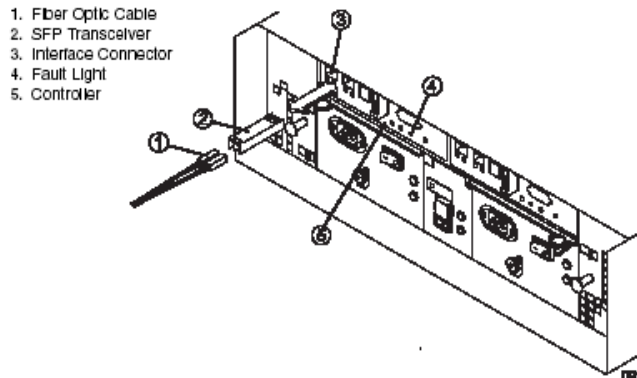

FIGURE 7-15 Removing the SFP Transceiver and fibre Optic Cable
7. Check the Fault lights to locate the failed controller battery. If a fault is detected, the amber Fault light will be illuminated. Figure 7-15 on page 7-31 shows the locations of these lights.
8. Disconnect the SFP transceivers and all attached interface cables from the failed controller. Label all cables such that you can reconnect them correctly to the new controller. Figure 7-15 illustrates disconnecting a cable.
13. Reinstall the SFP transceivers to their original connectors, and attach the host and drive interface cables to their respective SFP transceivers. Figure 7-15 on page 7-31 illustrates installing an SFP transceiver and cable.